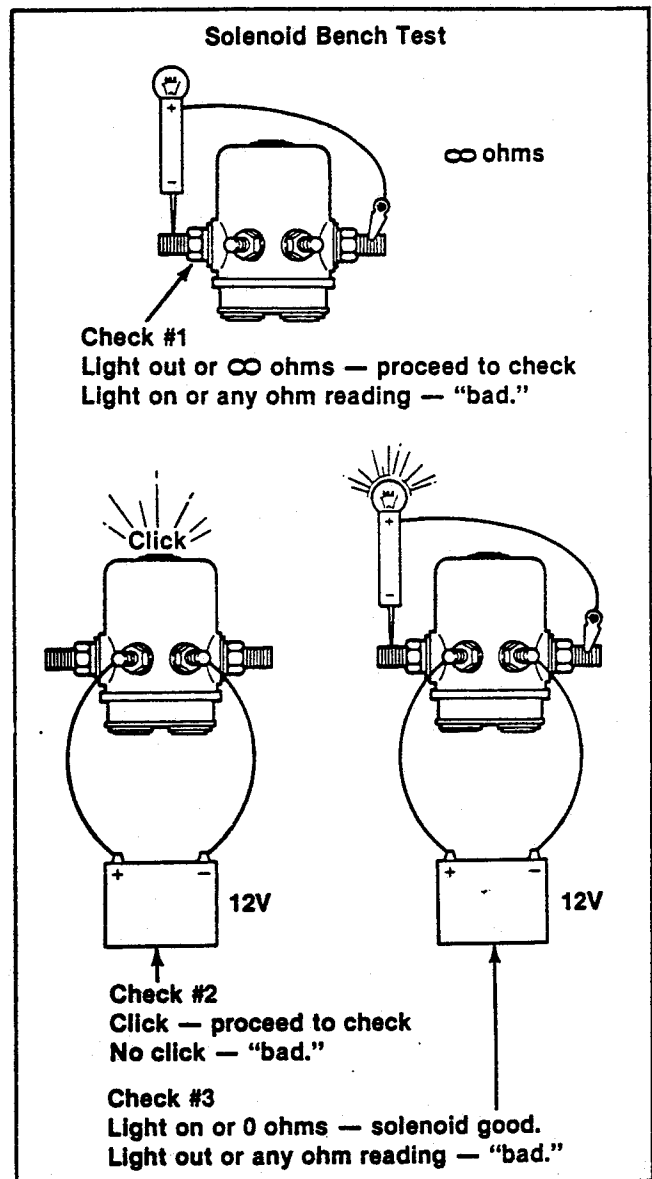
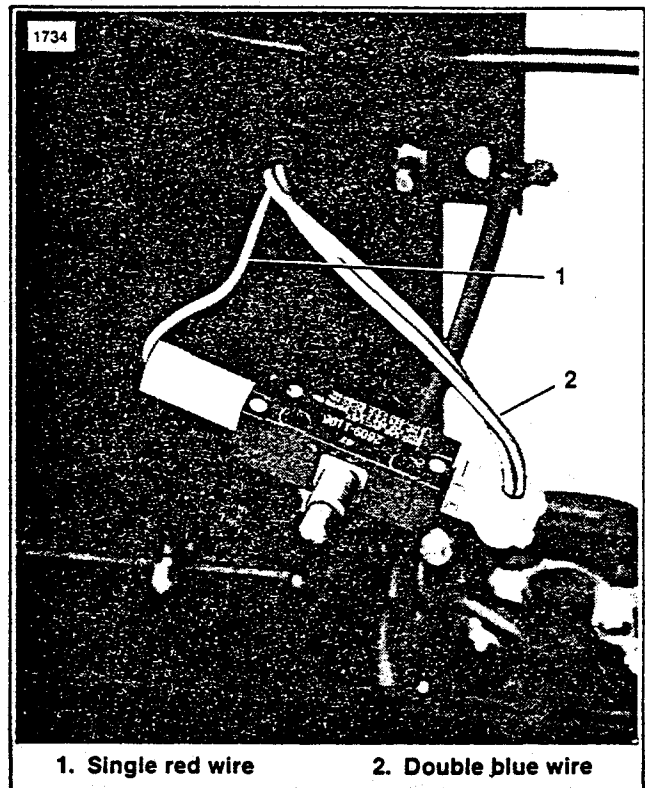

Figure 8-7. 3-Step Solenoid Test
Figure 8-9. Micro-Switch
TESTING SOLENOID (Figure 8-7)
4. See Figure 8-9. Disconnect single red wire (1) and double blue wire (2).
1. See Figure 8-9. Reconnect single red wire (1), double blue wire (2) and mount switch using speed nut (5, Figure 8-7).
2. Install switch plunger boot (4) to switch, spin on cup (2) and locknut (1).